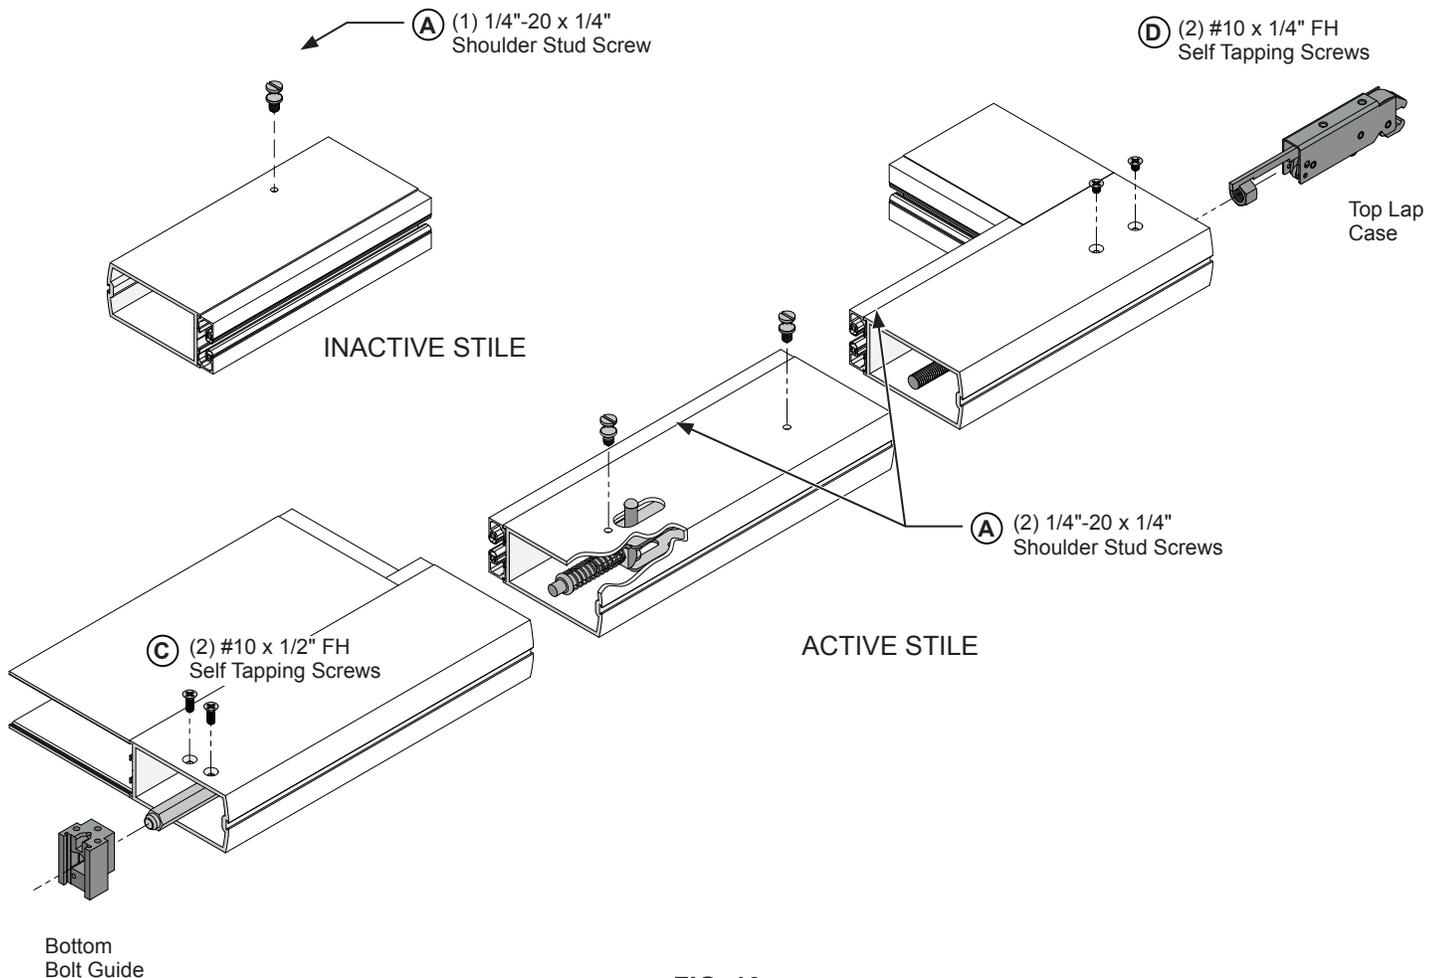

FIG. 10
2. Align actuator pin through the slotted cut-out on interior face of stile, fastening with (2) (A) 1/4"-20 x 1/4" shoulder stud screws. (Fig. 10)
4. Install the top latch case assembly using (2) (D) #10 x 1/4" FH self threading screws at the top of the active door stile. The (2) holes face the interior side.
5. Install the bottom bolt guide assembly using (2) (C) #10 x 1/2" FH self threading screws at the bottom of the active door stile. The (2) holes face the interior side of stile.
6. Attach (1) (A) 1/4"-20 x 1/4" shoulder stud screw on the Inactive Stile. (Fig. 10)